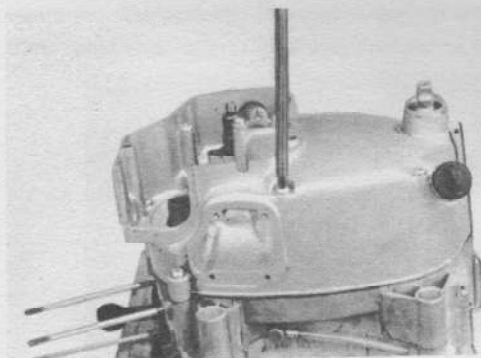

Fig. 3-34
- a. Remove the pan-head screws holding the right crank case cover (Figs. 3-34 & 3-35). The cover can be removed without removing the oil pump.